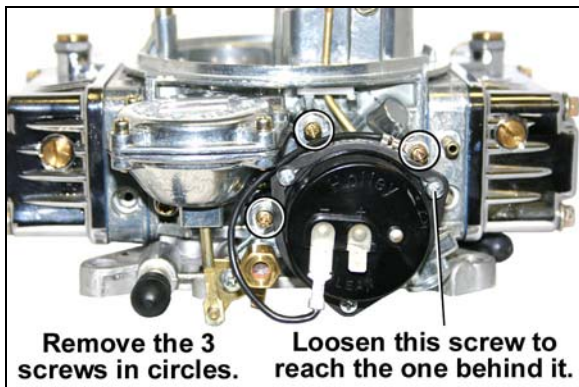

Figure 12
1. Remove the choke cap (electric choke), choke fresh air hose (electric choke), and choke housing (manual and electric choke) to gain access to the third screw retaining the vacuum diaphragm to the main body (Figure 12).